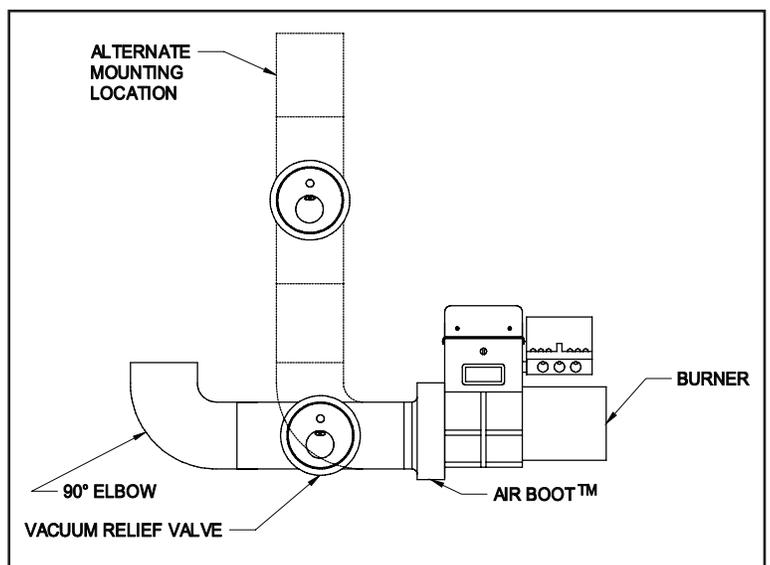

Figure 6
Mount VRV tee assembly or 90° elbow onto the Air Boot intake. Fasten using three (3) sheet metal screws spaced 120° apart on all joints. (See Figure 6)